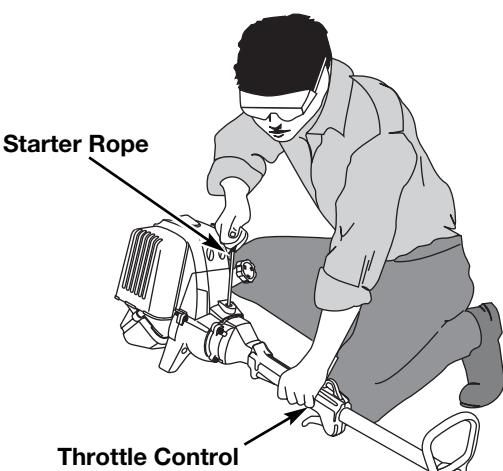

Fig. 9
**WARNING:** Avoid accidental starting. Make sure you are in the starting position when pulling the starter rope (Fig. 9). To avoid serious injury, the operator and unit must be in a stable position while starting.
5. With the unit in the starting position, **do not squeeze the throttle control** (Fig. 9). Pull the starter rope out a short distance, until you feel some resistance. This is usually around 2-4 inches. Then pull the rope smoothly and briskly. Repeat this 5 times. The engine should start.